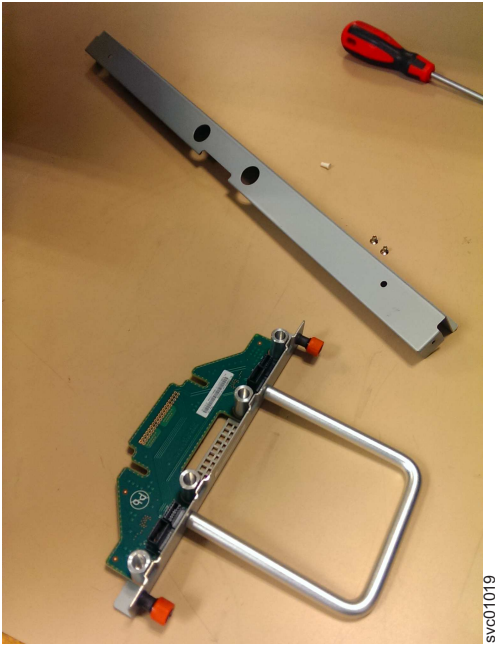

Figure 97. FIB parts removed from the chassis
4. Place the FIB (shown in Figure 97) in a safe location.